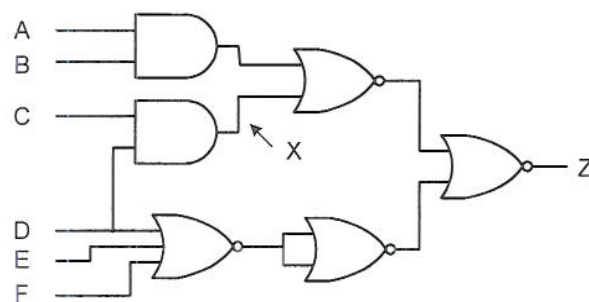

Figure 6.2
- c) Consider the circuit shown in Figure 6.2. Explain why a stuck-at-0 fault at node X is undetectable.